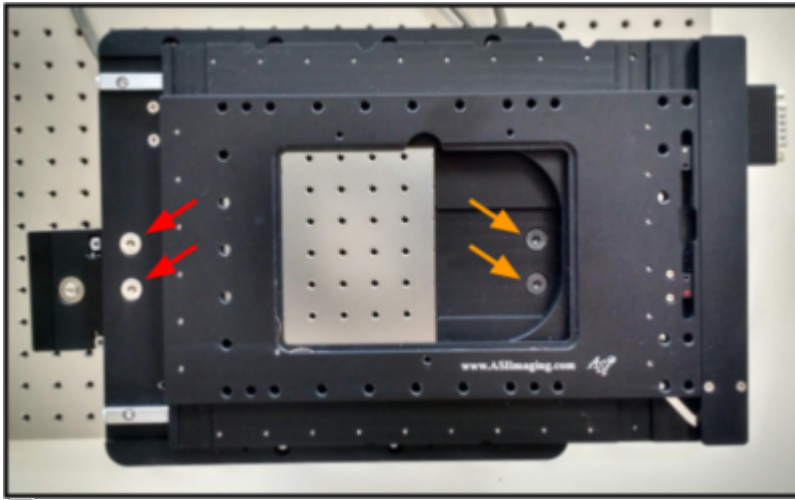

Figure 4: stage mounted using criss-cross pattern
1. Mount the bottom plate of the stage to the stilts, as in Figure 4. Work in a criss-cross pattern, gently tightening the screw farthest from the one you just tightened. Do the sequence once gently,